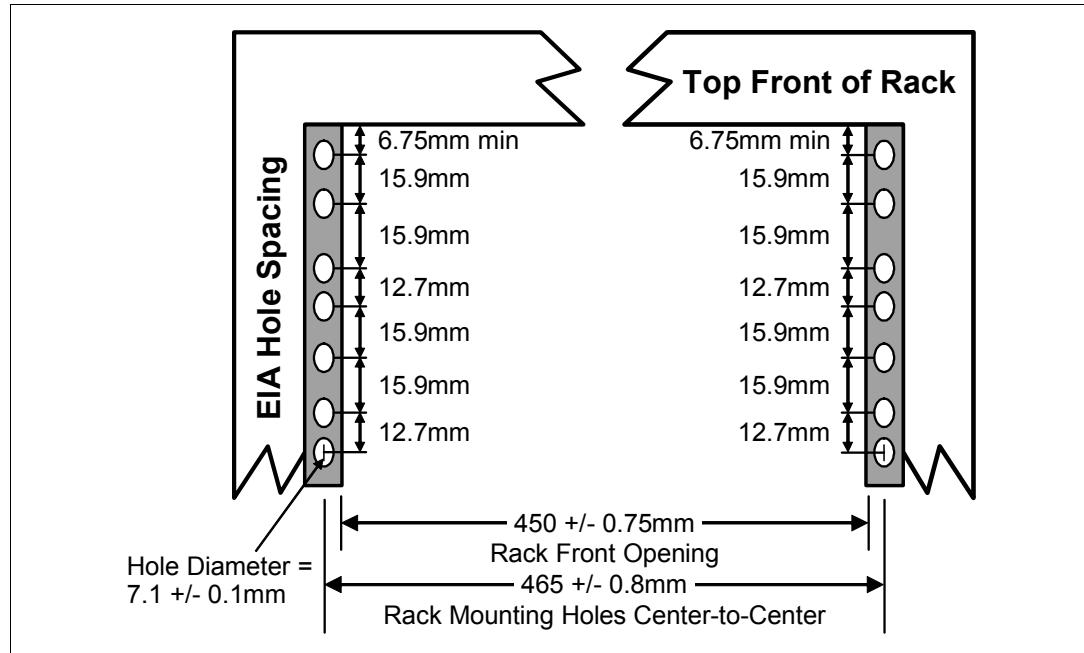

Figure 1-7 Rack specification dimensions, top front view
- The vertical distance between the mounting holes must consist of sets of three holes spaced (from bottom to top) 15.9 mm (0.625 in.), 15.9 mm (0.625 in.), and 12.67 mm (0.5 in.) on center, making each three-hole set of vertical hole spacing 44.45 mm (1.75 in.) apart on center. Rail-mounting holes must be $7.1 \text{ mm} \pm 0.1 \text{ mm}$ (0.28 in. ± 0.004 in.) in diameter. Figure 1-7 shows the top front specification dimensions.